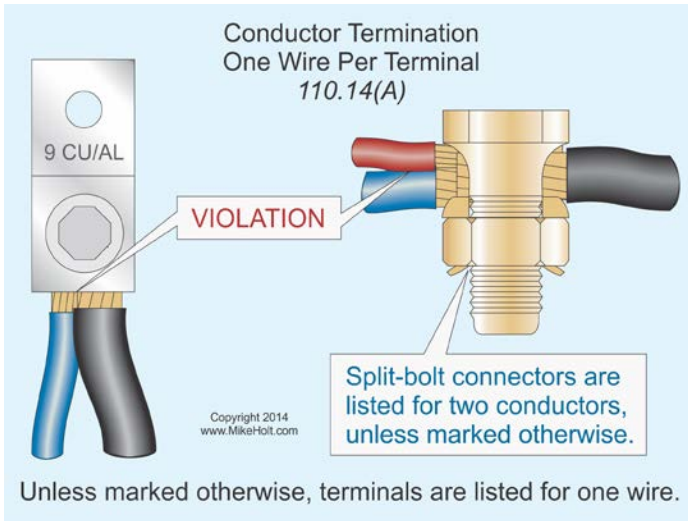

Figure 110-26
- Split-bolt connectors are commonly listed for only two conductors, although some are listed for three conductors. However, it's a common industry practice to terminate as many conductors as possible within a split-bolt connector, even though this violates the *NEC*. Figure 110-26